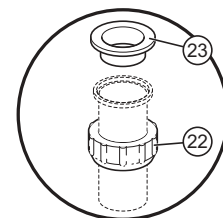

Fig. 7
Slip joint nut and plastic washer are used to connect tailpiece extension to the tub drain (**Fig. 7**). **Do not overtighten the slip joint nut;** it could strip the threads on the plastic drain.
4. Connect tailpiece to laundry tub strainer (25.1) with the slip joint nut (Item 22). Make sure to put the plastic washer (Item 25) **Fig. 7**. Install P-trap (Item 25) in trap adaptor and over tailpiece. Tighten all nuts. Do not overtighten. **Fig. 8.**